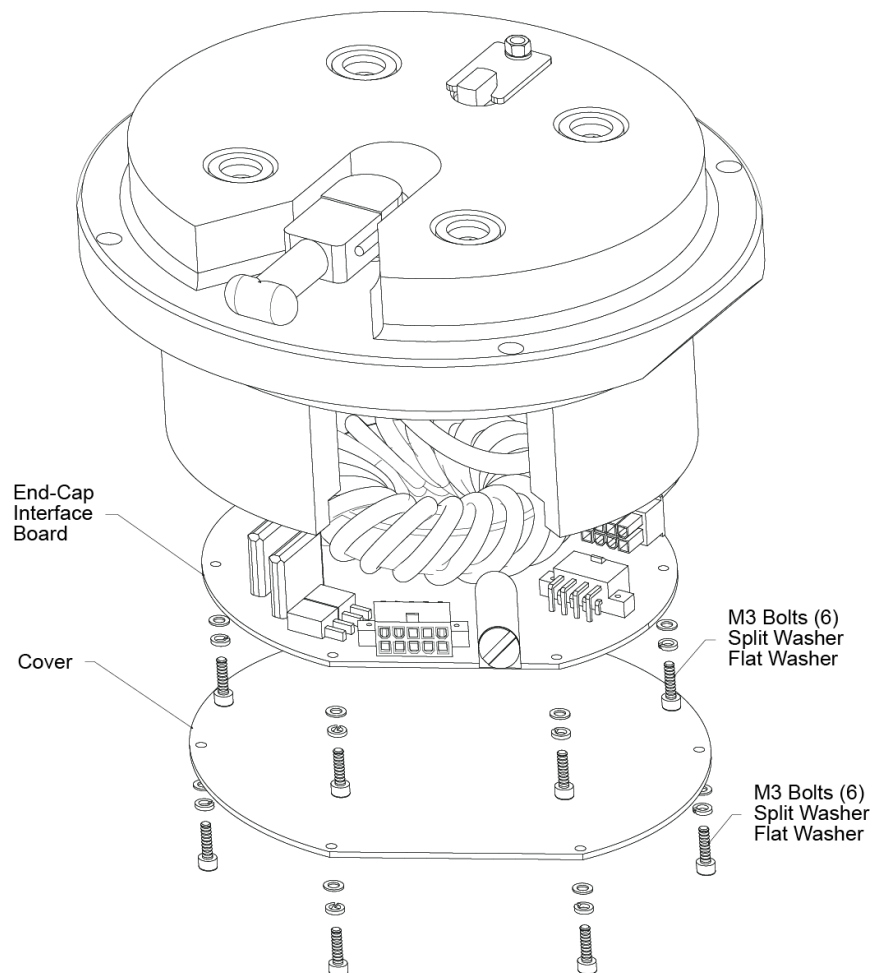

Figure 57. Long Ranger / QuarterMaster End-Cap Assembly
2. Remove the cover plate and End-Cap Interface board from the end-cap. See Figure 57 for details.
17. Replace the End-Cap Interface board and cover (see Figure 57). Install the end-cap. Use new end-cap O-rings and desiccant before sealing the ADCP.